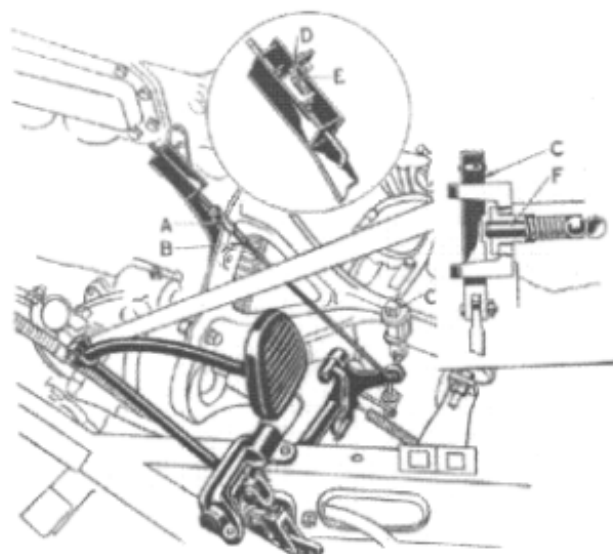

Figure 1
The lock nut (B) should be loosened and yoke (A) (Figure 1) on the rod, which operates the clutch circuit breaker, should be adjusted so that the clutch pedal must be depressed half way to the toe board before the circuit is closed. The upper insert in Figure 1 shows the position of the parts inside the circuit breaker at the point where the circuit is closed. (I) is the stationary contact and (E) the sliding contact.
At the time the circuit is closed the transmission *shifting rail locks must be released so that the shift can be made*. The lower insert in Figure 1 shows the proper position of the lock bar link (C) and plunger (F).